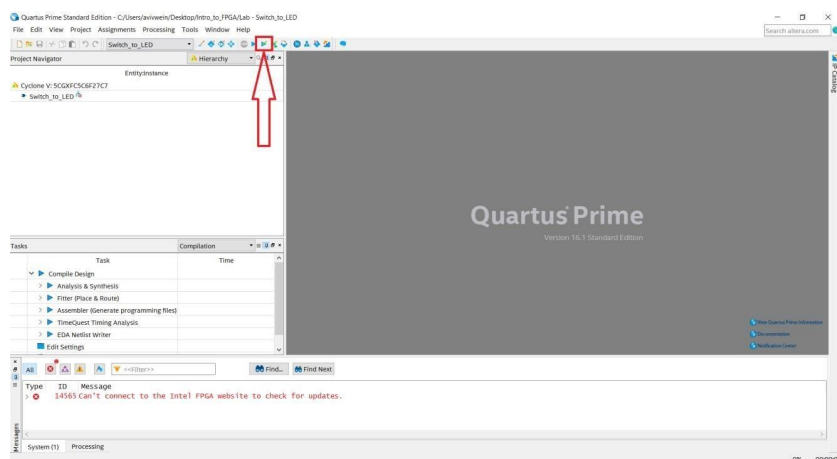

Figure 10: Analysis and Elaboration check mark
- To run Analysis and Elaboration, click the **Play** button with a green check mark, shown in Figure 10 below.